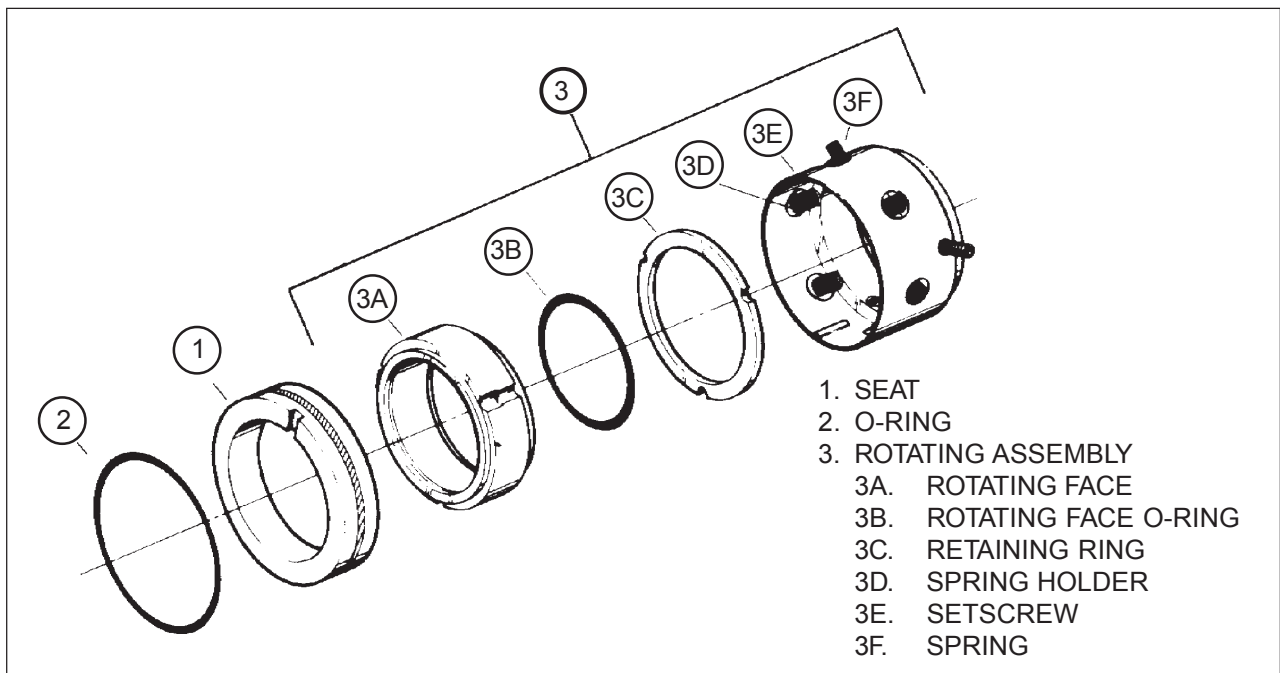

Figure 2 – Borg Warner Type Q Mechanical Seal or Crane Type 8-1 Mechanical Seal
NOTE: Part number identifiers (IDPs) contained within parenthesis such as (10) refer to the circled numbers shown on the assembly drawing. See Figure 2 and 3 and Table 2.